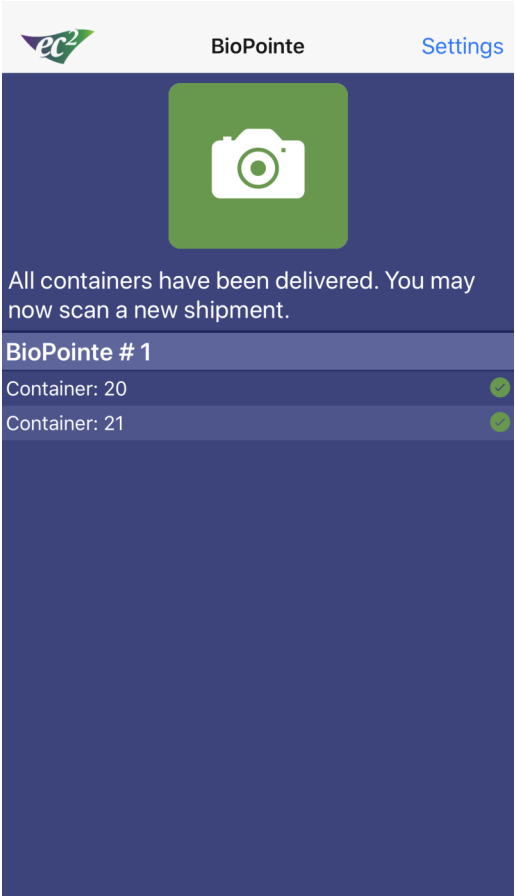

Fig 10
- f. After all deliveries have been completed, BioPointe transmits case delivery data to the pharmacy. The driver will be prompted to “Scan a Shipment Report to Begin” to start the next shipment. However, if there is a non-existing or low signal at the facility, upon completion the driver will see the message displayed on Fig 10. At this point, it is essential not to exit from BioPointe to ensure proper case delivery update in BioRx. Once in range, the message will automatically clear after a few minutes.